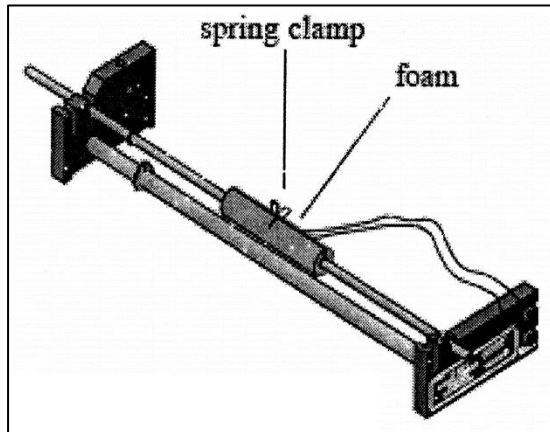
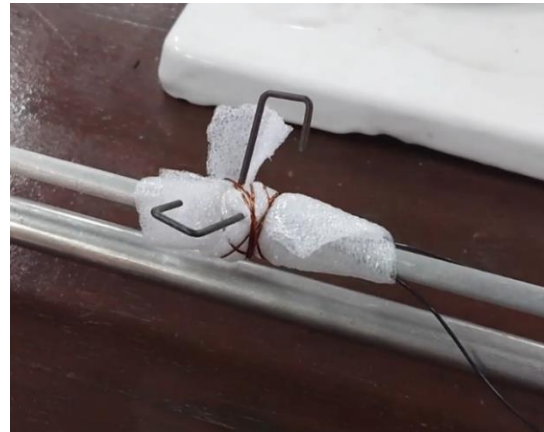

Figure 10 Insulating the rod with tubular foam wrap.
Figure 11 Insulating the rod with some generic foam and secured with some wires.
2. Insulate the rod and the thermistor with a slitted, tubular foam wrap. Slide the foam wrap from underneath the rod until the foam covers the circumference of the rod. The spring clamp should jut out from the top of the foam slit (see Figure 10). If the tubular foam wrap is not available, use some generic foam to wrap around the thermistor and the rod and then secure the foam with some wires (see Figure 11).